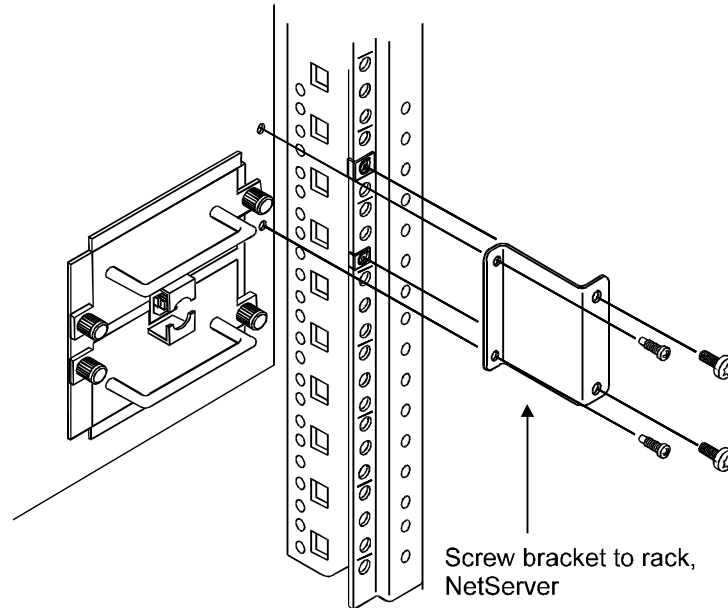

Figure 8-15. Attaching the z-brackets to the NetServer and Rear Columns
7. Attach the z-brackets to the rear columns with two Torx screws, using the T25 Torx driver. Fasten the bracket to the NetServer with two Torx screws (see Figure 8-15).